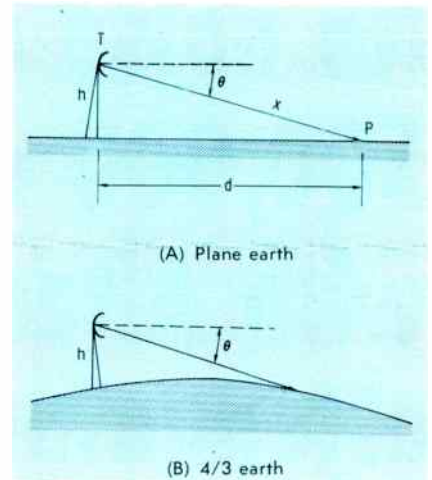

Fig. 2. Effect of a narrow horizontal beam width with a 1° depression angle.
Consider a horizontally polarized antenna with a vertical beamwidth of 2° and a gain of 14 dB. The antenna will be mounted 250 ft above ground. In this antenna the power will be 3 dB less than the maximum at a depression angle of 1° below the horizon. [Fig. 2 (A)]